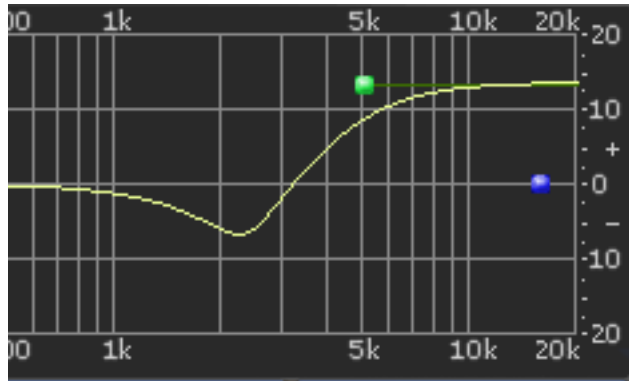
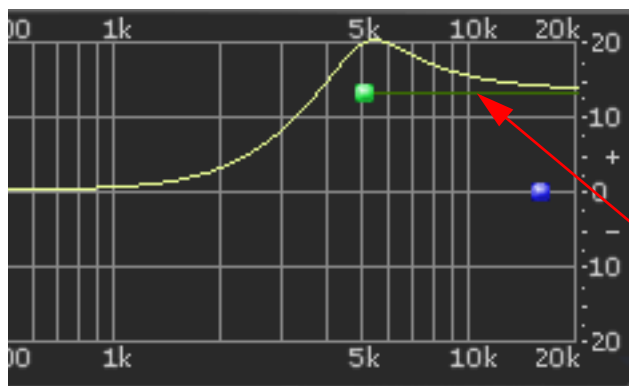
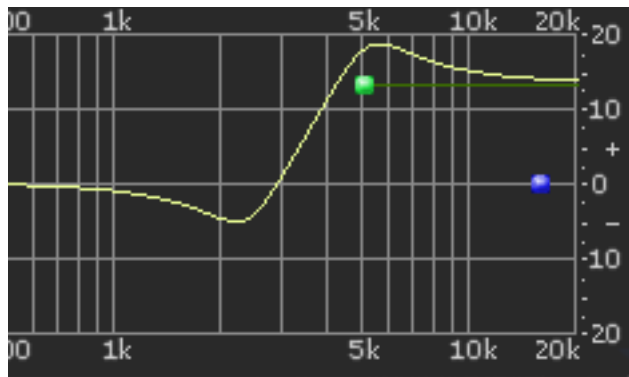

Figure 65. Shelf Type A
Figure 66. Shelf Type B
Figure 67. Shelf Type C
The button is green when shelving is enabled. Additionally, the control bar associated with the band has a horizontal shelf indicator line in the response curve display (see Figure 66 on page 142) when shelf mode is active.
The Shelf Type button places the resonant peak at (A) the edge of the stopband (Figure 65 on page 142), (B) the edge of the passband (Figure 66), or (C) at the edge of the stopband and the passband (Figure 67).